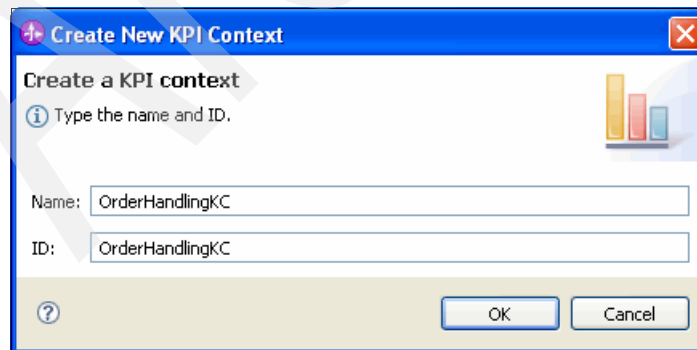

Figure 8-96 Setting the KPI context name
3. In the Create New KPI Context window (Figure 8-96), for Name, type OrderHandlingKC and click **OK**.